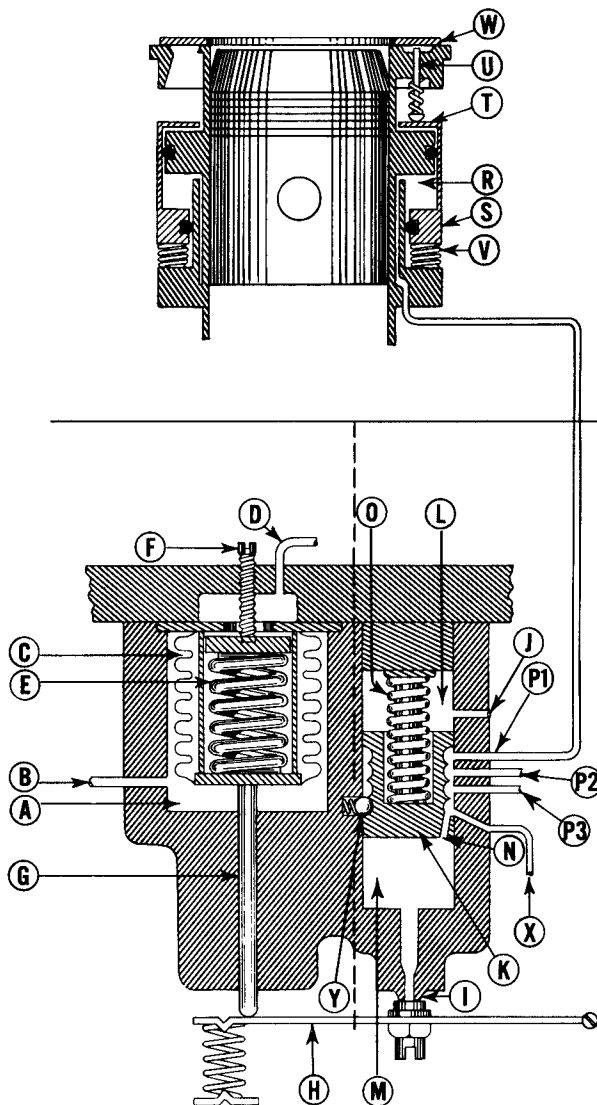
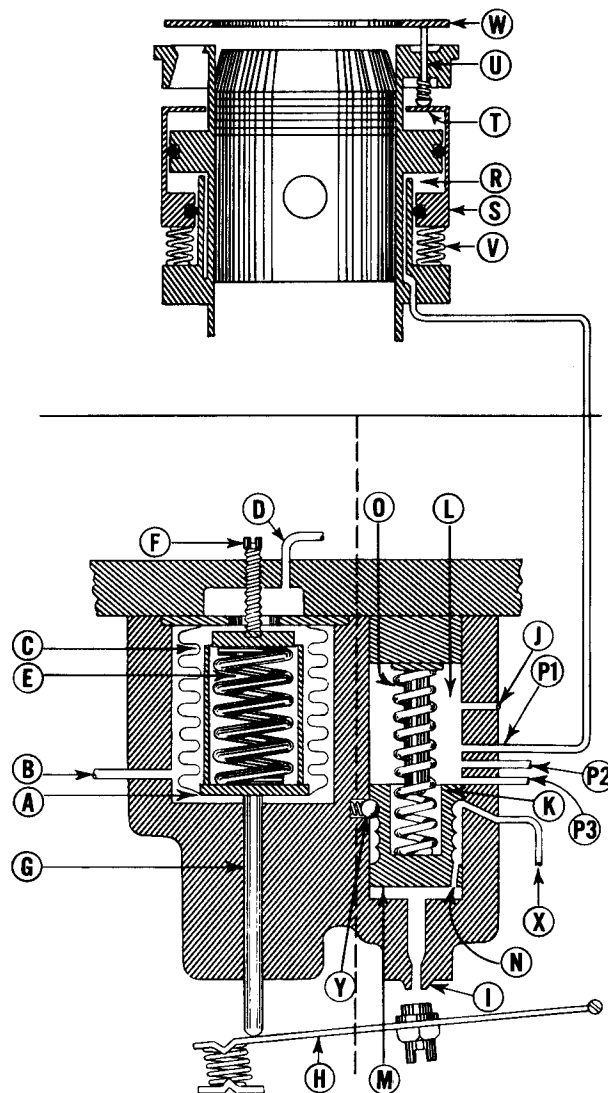

FIGURE 11
FIGURE 12
To gain a full understanding of the complete operational cycle of the unloader mechanism, one should consider the mechanism as two distinct components: (1) capacity control actuator (see Figures 11 and 12 below the solid black line), (2) cylinder unloader mechanism—one for each controlled cylinder (Figures 11 and 12 above the solid black line).
(NOTE: Figures 11 and 12 are schematic drawings and show only the flow of operation.)
The capacity control actuator reacts to variations in refrigeration load requirements and transmits them to the cylinder unloader mechanism, which acts to load and unload the compressor cylinders. To perform this dual function, the capacity control actuator consists of (1) a pressure sensing device (Figures 11 and 12, lower left quadrant) which is sensitive to variations in suction pressure, (2) a valving mechanism (Figures 11 and 12, lower right quadrant) which regulates the oil pressure to the various cylinder unloader mechanisms.
Under full capacity operation, as shown in Figure 11 orifice (I) is shut off. Oil pressure in lower chamber (M) increases because oil under pump pressure is being supplied through line (X). This pressure overcomes the force of spring (O) and floating piston (K) rises in the cylinder. As it rises, the annular grooves in the floating piston coincide in sequence with lines P1, P2 and P3 to the cylinder unloaders providing them with full oil pressure and permitting them to operate at full capacity. To make Figures 11 and 12 as simple as possible, only line P1 is connected to a cylinder unloader mechanism. Lines P2 and P3 are in reality connected to identical mechanisms, and while this discussion is concerned with only one unloader mechanism, it can be extended to cover them all.
When full compressor capacity is not required, regulated orifice (I) is opened through movement of lever (H). Oil bleeds through it, and pressure within the lower chamber approaches crankcase pressure, as shown in Figure 12. Under these circumstances, the force of spring (O) overcomes the pressure in the lower chamber and floating piston (K) is moved downward so that the lines P1, P2 and P3 become connected in sequence to the crankcase pressure through orifice (J). The spring loaded
Under full capacity operation (Figure 11), oil flows into annular chamber (R) under pressure sufficient to contract the unloader piston spring (V). When oil pressure forces springs to contract, the unloader piston (S) moves down, and takeup ring (T) and the suction valve lift pins (U) move with it. This permits the suction valve (W) to function normally and the cylinder operates to full capacity. When the compressor is to operate at less than full capacity (Figure 12), oil line P1 from the cylinder unloader mechanism is connected to the crankcase pressure through orifice (J) which allows the pressure in the annular chamber (R) to dissipate. The cylinder unloader springs (V) expand, lifting the unloader piston (S). This raises the takeup ring (T), the valve lift pins (U), and holds the suction valve (W) open so that the controlled cylinder is operating in an unloaded condition.